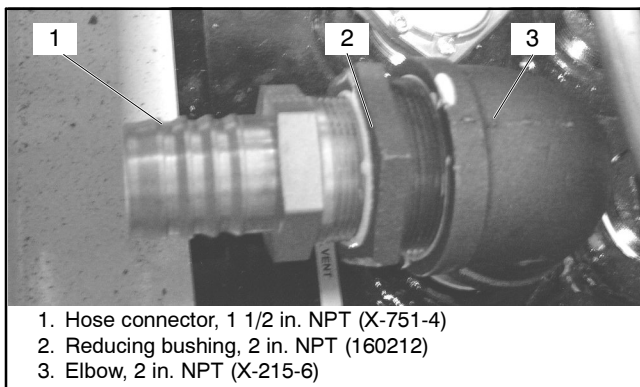

Figure 8 Secure Subassembly to 2 in. NPT Elbow
- 2.1.9 Attach subassembly to 2 in. NPT elbow X-215-6 and tighten securely. See Figure 8.